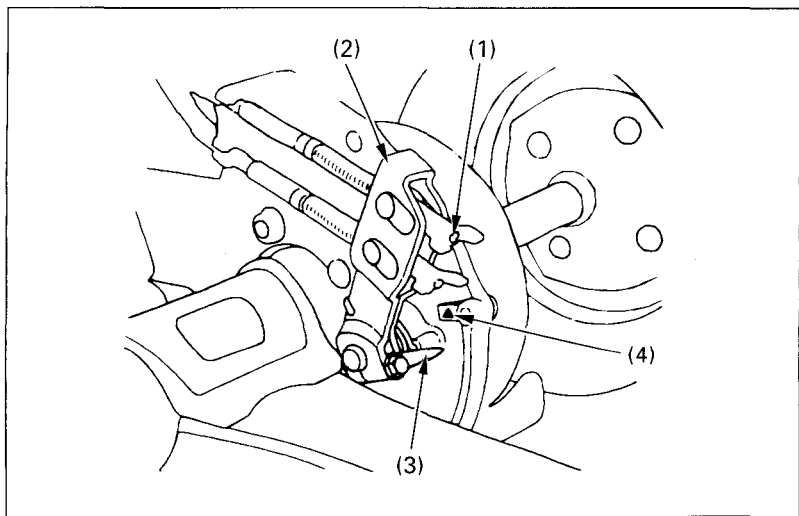

Fig. 4-28 (1) Brake lever adjusting nut (3) Arrow
When the brake is applied, an arrow (3) attached to the brake arm (2) moves toward a reference mark (4) on the brake panel (see Fig. 4-28).